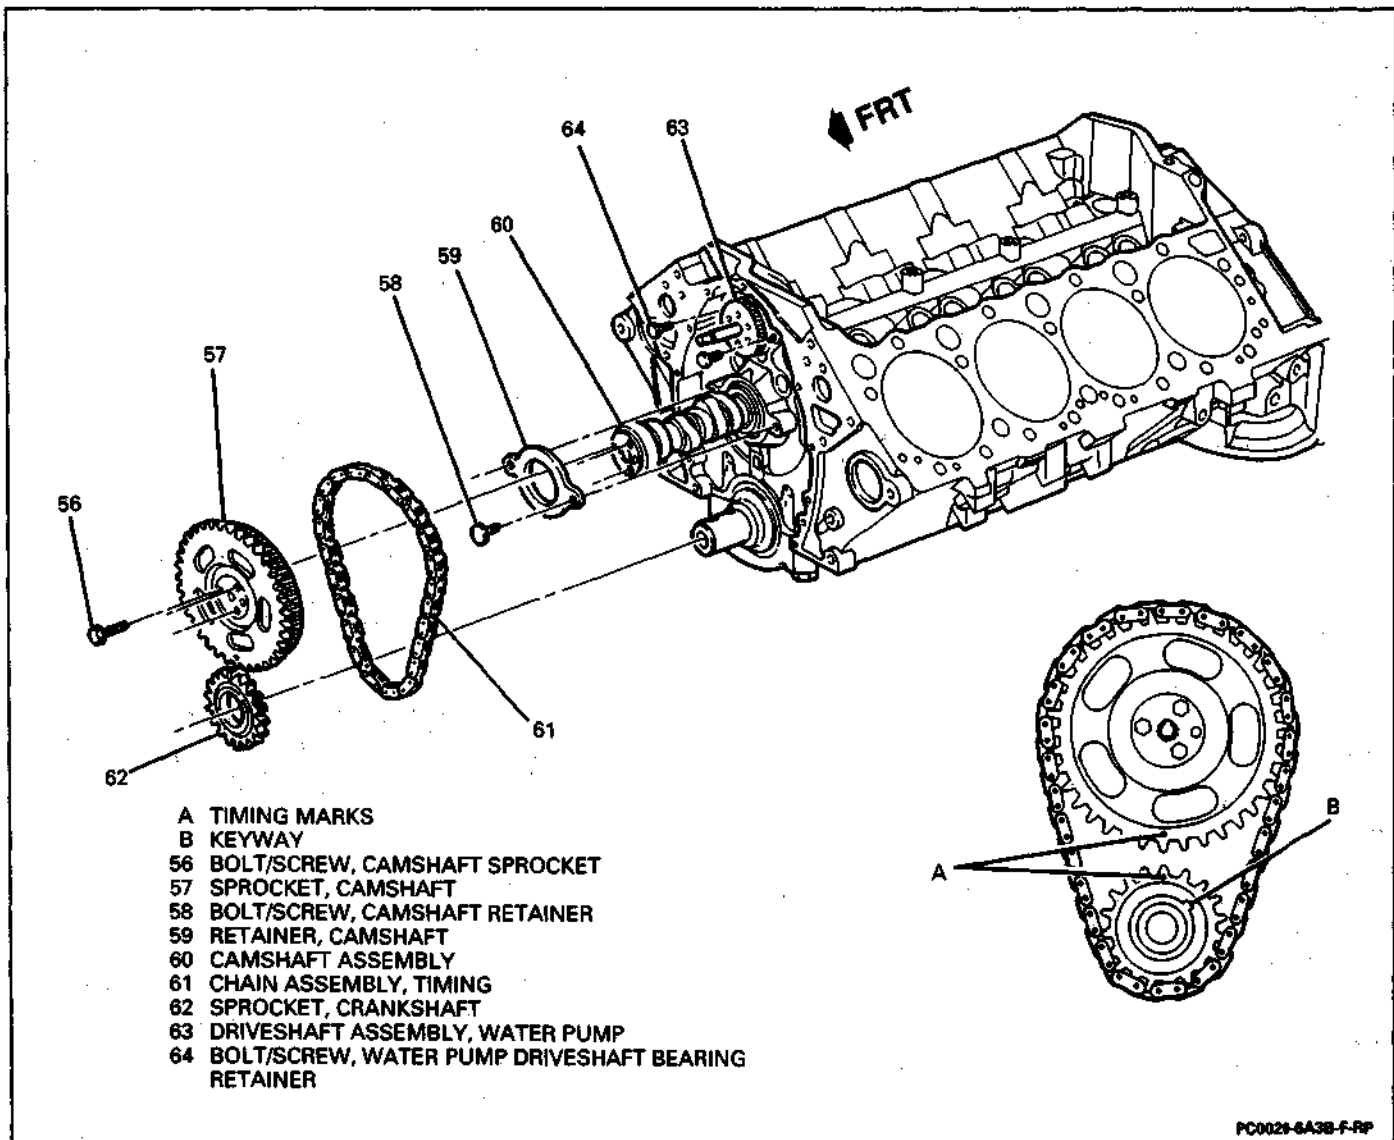

Figure 14 - Camshaft Assembly, Sprockets and Water Pump Driveshaft Assembly
2. Rotate crankshaft assembly until timing marks punched on crankshaft sprocket (62) and camshaft sprocket (57) are aligned as shown in Figure 14.
3. Camshaft sprocket bolts/screws (56).
4. Camshaft sprocket (57) and timing chain assembly (61).
5. Water pump bearing retainer bolts/screws (64) and water pump driveshaft assembly (63) using J 39243.
- Remove and discard O-ring from water pump driveshaft assembly (63).
6. Crankshaft sprocket (62) using J 5825-A.